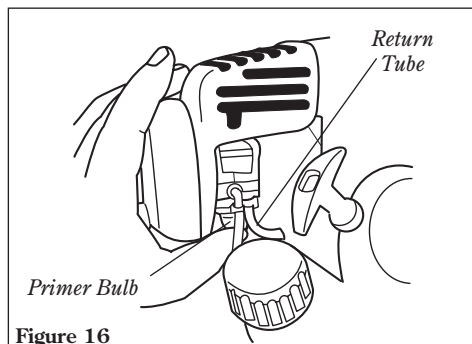

Figure 16
3. Press the primer bulb until fuel can be seen flowing in the transparent return tube. See Figure 16.